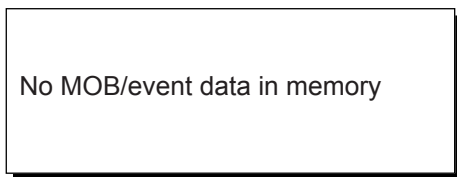

Figure 4-7
**Note:** You cannot register a MOB position or event position when there are no MOB positions or event positions saved. The buzzer sounds and the message shown in Figure 4-7 appears for three seconds to alert you.